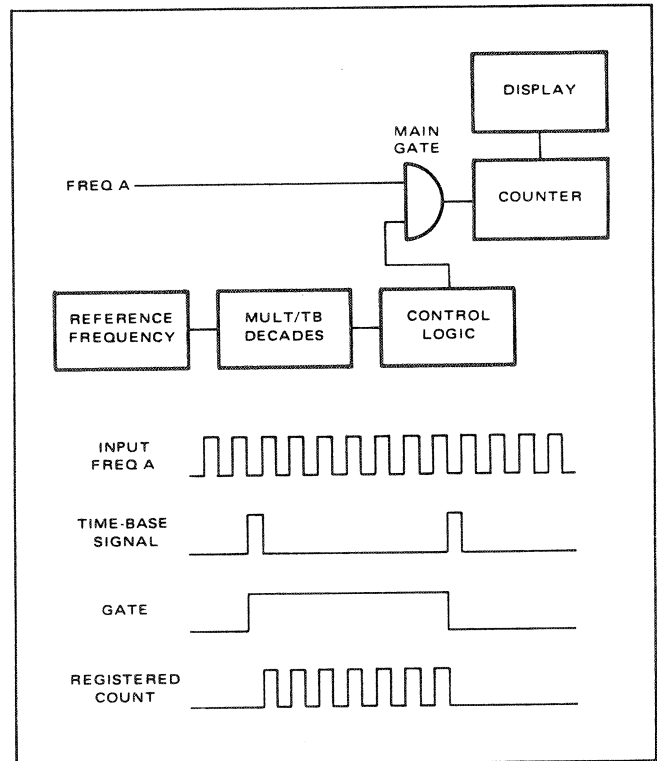

Figure 4.5 - Frequency "A" Mode
4.19 During direct frequency measurements, the counter compares the unknown frequency against the known reference frequency (figure 4.5).